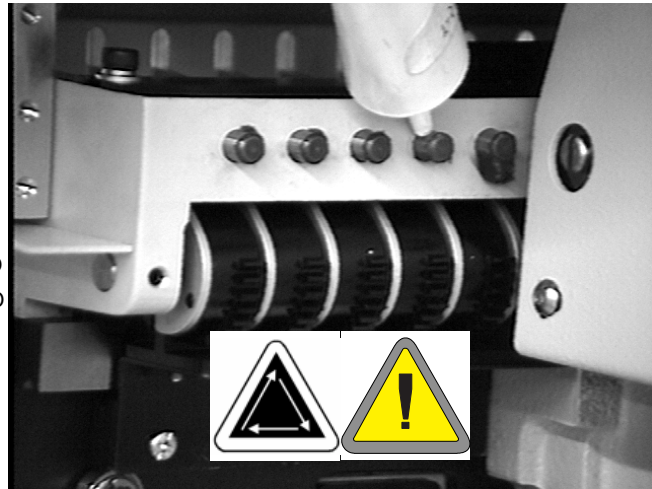

Figure 4-21
1. When **color change cam** displays, press . This causes the needle case to move to needle 10. Refer to Figure 4-21 to lubricate the color change cam; USE A SMALL AMOUNT OF GREASE to lubricate the color change cam pins. Press  when done (the machine will perform a series of color changes to distribute the grease).